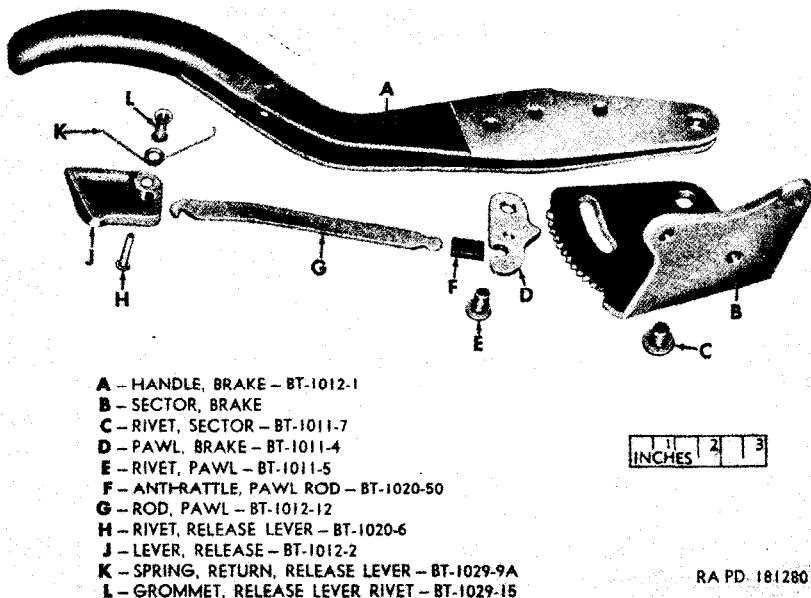

Figure 144. Handbrake assembly—disassembled view.
- (2) *Hand brake assembly* (fig. 144). Drive out the sector rivet (C) and withdraw brake sector (B) from brake handle (A). Drive out release lever rivet (H). Withdraw release lever (J) and pawl rod (G) from within brake handle (A). Pull the pawl rod antirattle (F) off pawl rod. Drive pawl rivet (E) and withdraw brake pawl (D) from within brake handle. To remove release lever return spring (K), remove the release lever rivet grommet (L) which secures spring to release lever (J).
- (1) *Brake sector* (fig. 144). Inspect brake sector (B) for damage and worn teeth. Replace sector, if necessary.
- (2) *Brake pawl* (fig. 144). Examine brake pawl (D) for worn projection and for oversized hole which offers engagement to the pawl rod (G). Replace brake pawl, if necessary.
- (3) *Pawl rod and release lever* (fig. 144). Replace the pawl rod (G) if its projections are so worn or damaged that they do not properly engage the release lever (J) and brake pawl (D). Replace damaged or worn release lever.
- (4) *Brake handle* (fig. 144). Inspect the brake handle (A) for distortion, damage, and wear. Replace handle, if necessary.
- (5) *Release lever return spring* (fig. 144). Replace a broken or distorted release lever return spring (K).
a. *Assemble Handbrake Assembly* (fig. 144). Secure brake sector (B) to brake handle (A) with sector rivet (C). Swage rivet tight. Slip pawl rod antirattle (F) on pawl rod (G). Position release lever return spring (K) in release lever (J) and secure spring to lever with the release lever rivet grommet (L). Engage pawl rod in release lever and brake pawl, and insert rod, lever, and pawl in the brake handle. Secure brake pawl to handle with pawl rivet (E). Swage rivet tight. Secure release lever (J) to handle with the release lever rivet (H). Peen over end of lever rivet.